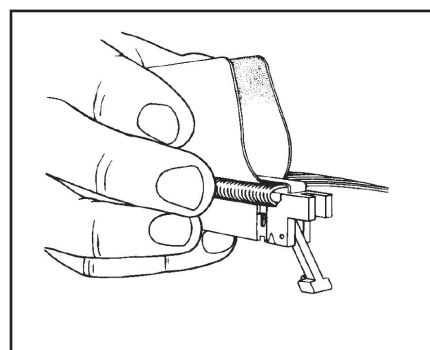

Figure 10
- a. Slide the pull tab between the strain relief and the cable. Seal both ends together. (Figure 10)